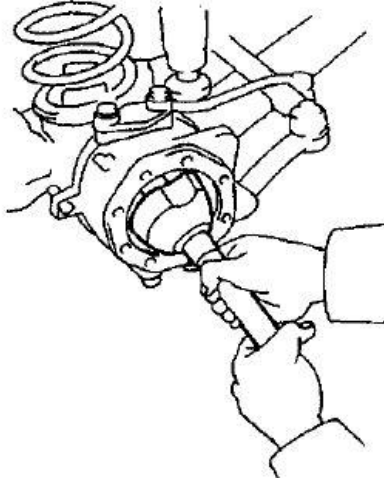

Fig 7
18. Repack the cleaned CV joint of the driveshaft with a CV joint-specific grease and reinstall the driveshaft into the axle; ensuring the flat of the CV joint is facing upwards during insertion. (Refer to fig 7). Fill the hub cavity around the CV joint to approx. $\frac{3}{4}$ capacity with a CV joint-specific grease.